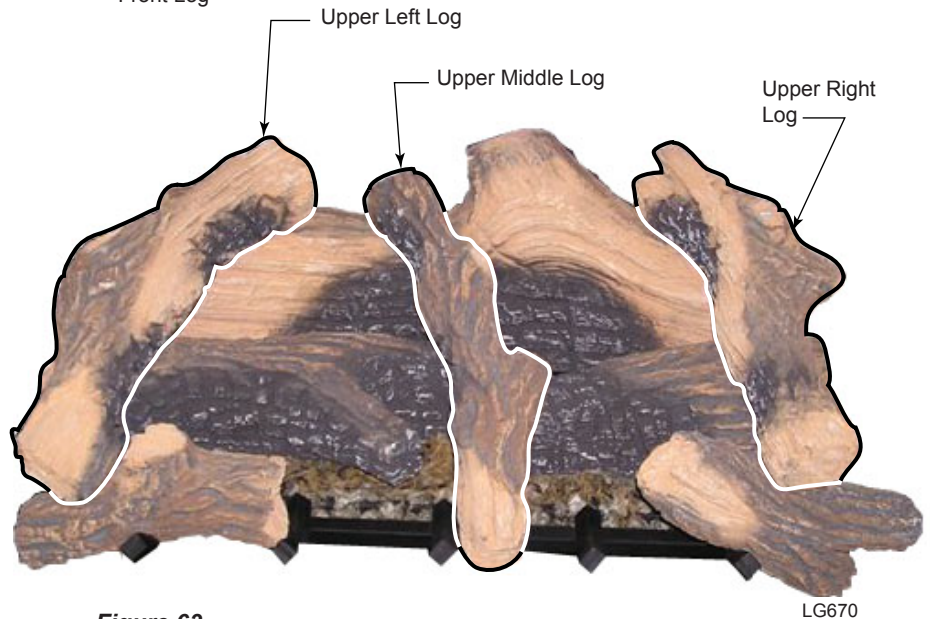

**Figure 63 -
- Place the upper left log by matching the two protrusions on the rear and left middle logs with the notches on the bottom of the upper left log. *Figure 63*
- Place the upper middle log by matching the protrusions located at the middle of the rear log with the notch on the bottom of the log. Rest the front end of the log on the right side of the middle tong of the grate. *Figure 63*
- Place the upper right log by matching the two protrusions on the rear and right middle logs with the notches on the bottom of the upper right log. *Figure 63*